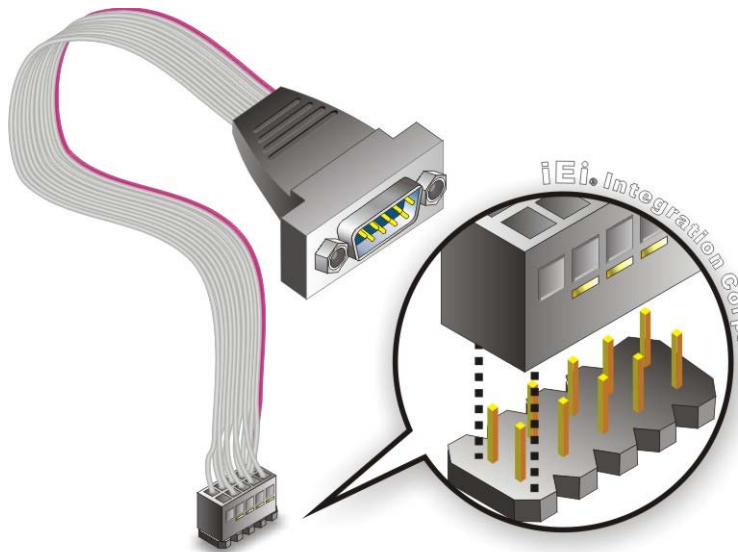

Figure 4-17: Single RS-232 Cable Installation
Step 2: Insert the cable connector. Insert the connector into the serial port pin header. See Figure 4-17. A key on the front of the cable connectors ensures the connector can only be installed in one direction.